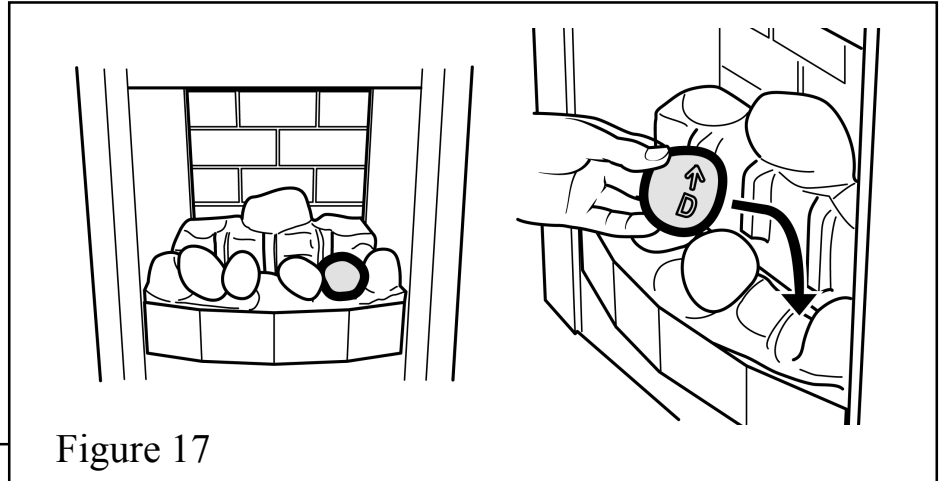

Figure 17
6. Hold pebble 'D' upright with the arrow pointing to the top. Place pebble "D" on top of the base front pebble. It should rest against the moulded pebble to its right. (See figure 17).